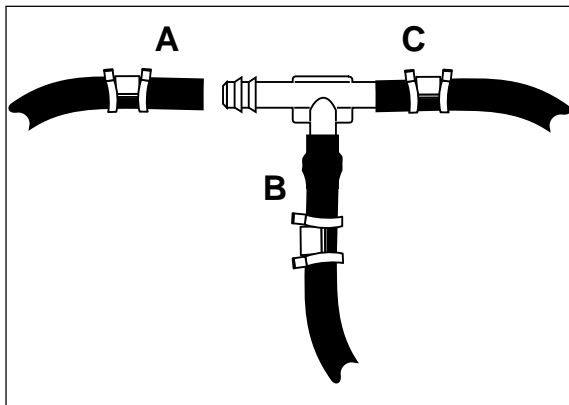

Figure 1
6. Re-attach the panhard rod and shock mounts (Figure 1).
If the vehicle's headlights are shining into the trees or the vehicle is leaning to one side, then it is not level (fig. 1). Raise the air pressure to correct either of these problems and level the vehicle.